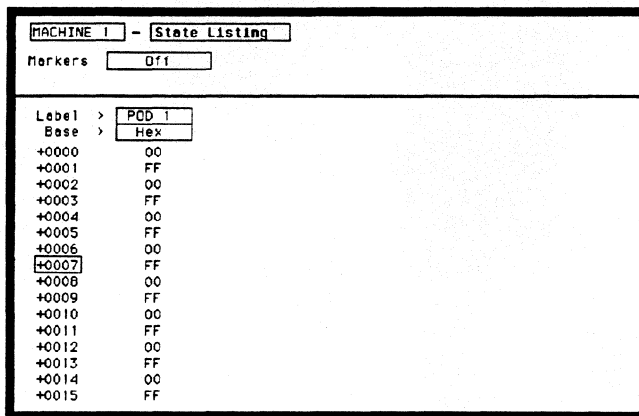

Figure 3-21. State Listing for Data Test 4
6. Press RUN. The **State Listing** is displayed and shows alternating Fs and 0s for the channels under test as in figure 3-21.